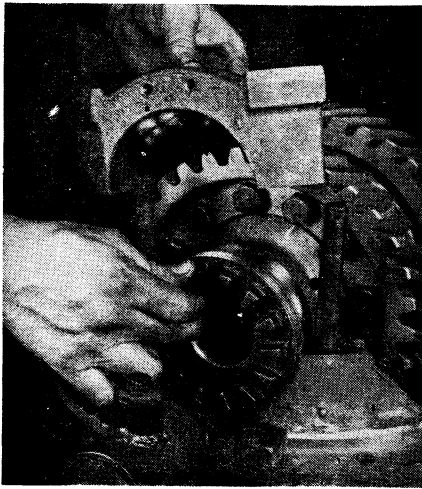

Fig. 49 Start bearing caps in the correct position as previously marked
- Insert bearing adjusting nuts and turn hand tight against bearing cups, Fig. 49.